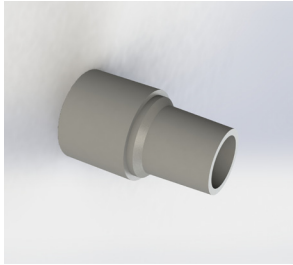
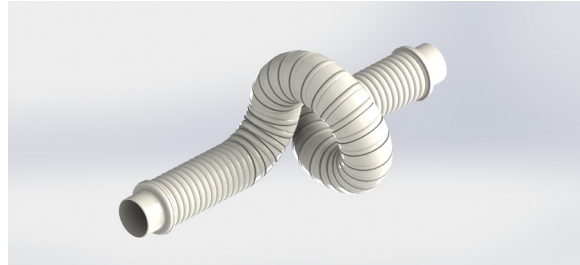

Fig. 1
Fig. 2
- A. Included with your StoneVac Mill Sync unit is a 1.25" gray hose end adapter (Fig. 1) and a 2.5" by 6' white hose (Fig. 2).